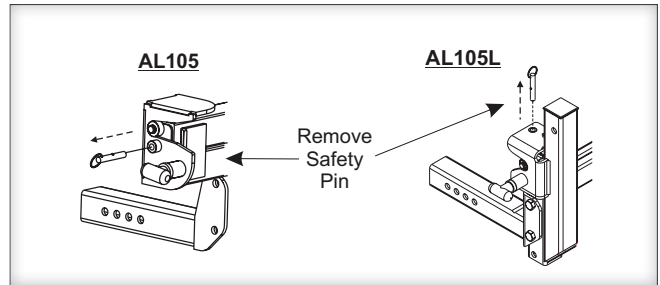

Figure 8-3
### 1. Remove Safety Pin [Figure 8-3]
**NOTE:** Two Swing-Away models are available, a standard **AL105** and the lightweight **AL105L**. They work basically the same way but the parts differ slightly as noted in [Figure 8-3].